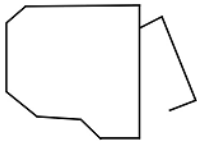

Fig. 1
1. Unscrew the mounting plate and take it off. (Fig. 1)